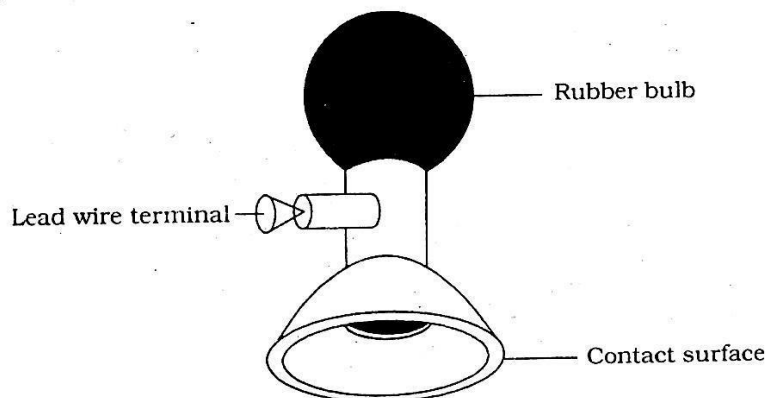

Figure 4: A metallic suction electrode
- A modification of the metal plate electrode that requires no straps or adhesives for holding it in place is the suction electrode which is shown in figure 4.